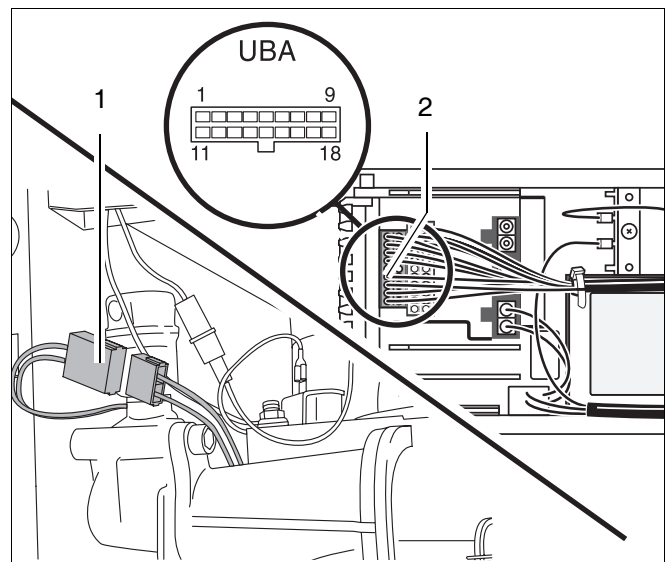

Fig. 60 Buderus 600 - 11R / 19R / 24R:
- Unplug cable connection from flow sensor (fig. 60, item 1).
- Disconnect 18-pin plug from UBA (fig. 60, item 2).
- Use a continuity tester to check the cable between the plug-in connection and the 18-pin plug in the UBA. The test should be carried out on connections 06-18 and 08-18 (fig. 60).